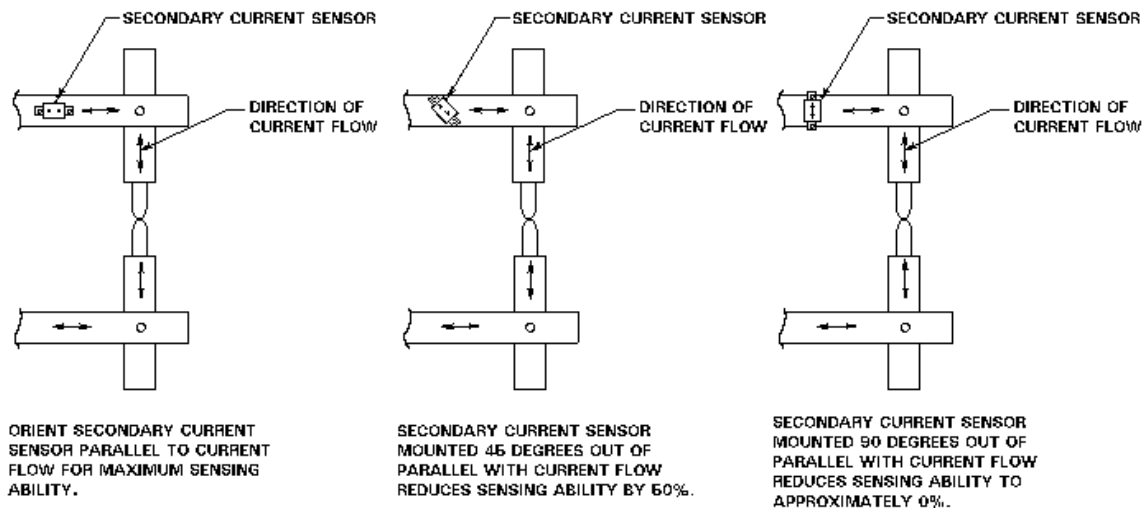

Figure 8.3.2 Secondary Hall Effect Sensor orientation
The Control is already calibrated in the Factory by using standard *calibration procedures* for the Gain Calibration on the Control Board for total of 16 ranges. However, relative position of the Hall effect Sensor must be adjusted accordingly, as shown on Figure 8.3.2.
12. Place the Current Hall Effect Sensor, as shown on Figure 8.3.2, parallel to the current flow to allow maximum sensing ability.